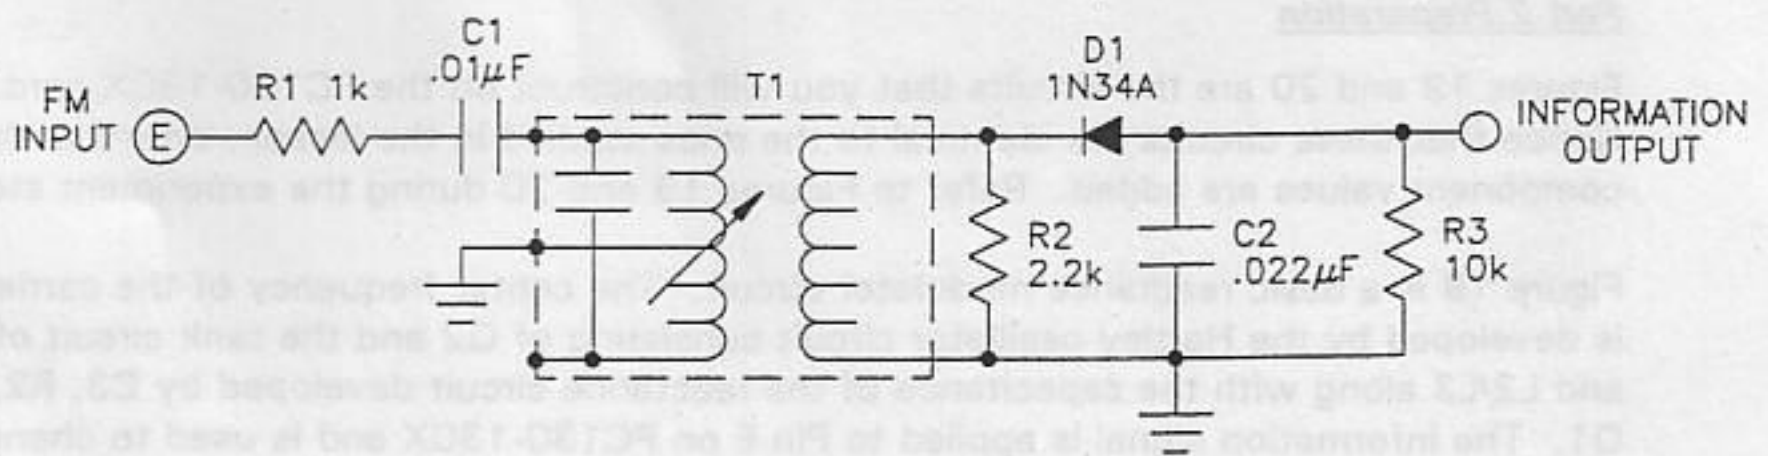

Figure 20. Slope Demodulator Circuit
Figure 20 is a basic slope demodulator circuit. T1 is a 455 kHz transformer used as C1/L1 and C2/L2 in Figure 12. C2 is used to change the frequency of T1 to match the output frequency of the modulator circuit. T1 was used because this part is inexpensive and readily available. C2 is also used to place the carrier frequency at the mid point of the response curve. Components D1, R2, and C3 operate as an AM diode demodulator which recovers the information signal.
- 2-16. Disassemble the modulator circuit and construct the demodulator circuit as shown in Figure 20.